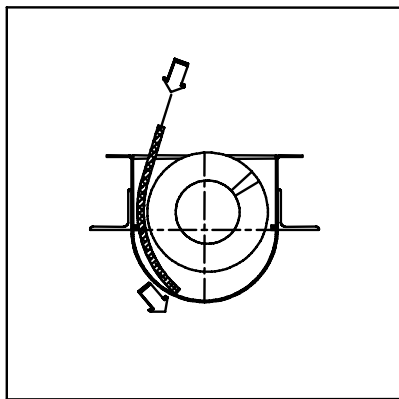

Figure 5.2e
6. Push the new liner under the spiral, making sure the wear indicator strip is at the bottom. It is important to secure the liner under the retainer blocks on each side of the trough (Figure 5.2e & 5.2f).